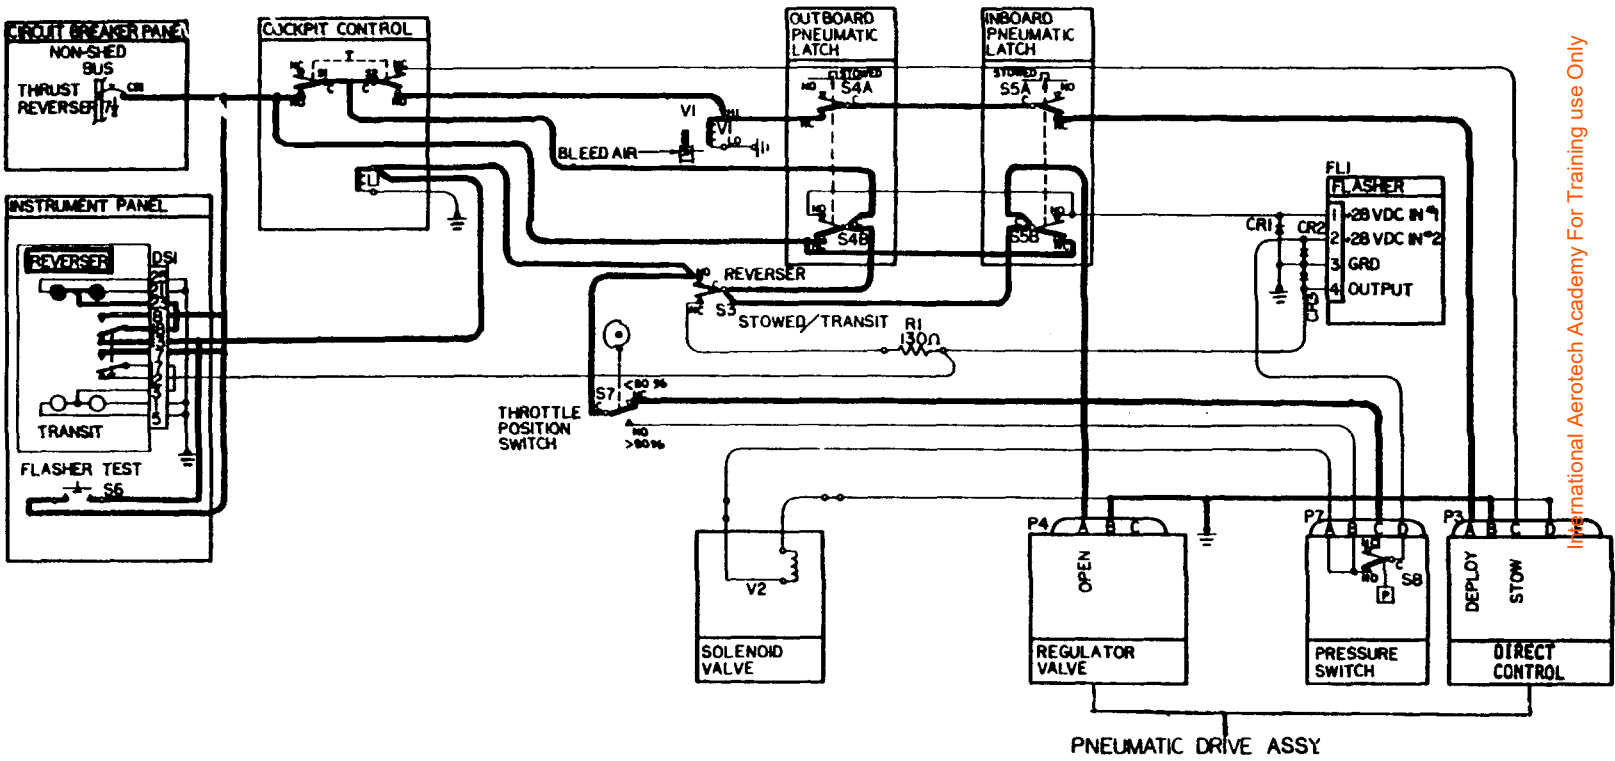

Figure 9. Electrical Schematic - Reverse Thrust - Unit Fully Deployed
- (3) Deployed Position. (Figures 9 & 10) As the racks approach the fully deployed position, a stop on the forward end of the inboard rack engages a mechanical push-pull cable linkage and, during the last increment of rack travel, pulls the follow-up cables aft to bring the actuator directional controls toward neutral. This action first slows and then stops the actuators. The final segment of aft rack travel also moves pins on the forward end of the outboard racks on to levers/arms to actuate the deploy limit/signal switches. The signal switches, located on the outboard side of the outboard racks, complete circuits, illuminating the REVERSE lights and extinguishing the TRANSIT light as well as energizing the lock-out solenoids. The lock-out solenoids retract the stop levers out of the reverser control lever detents and permit additional up and aft motion of the reverser lever assemblies for operating the reversers at power settings from 65 percent N1 RPM reverse idle to 97.5 percent N1 RPM maximum reverse.